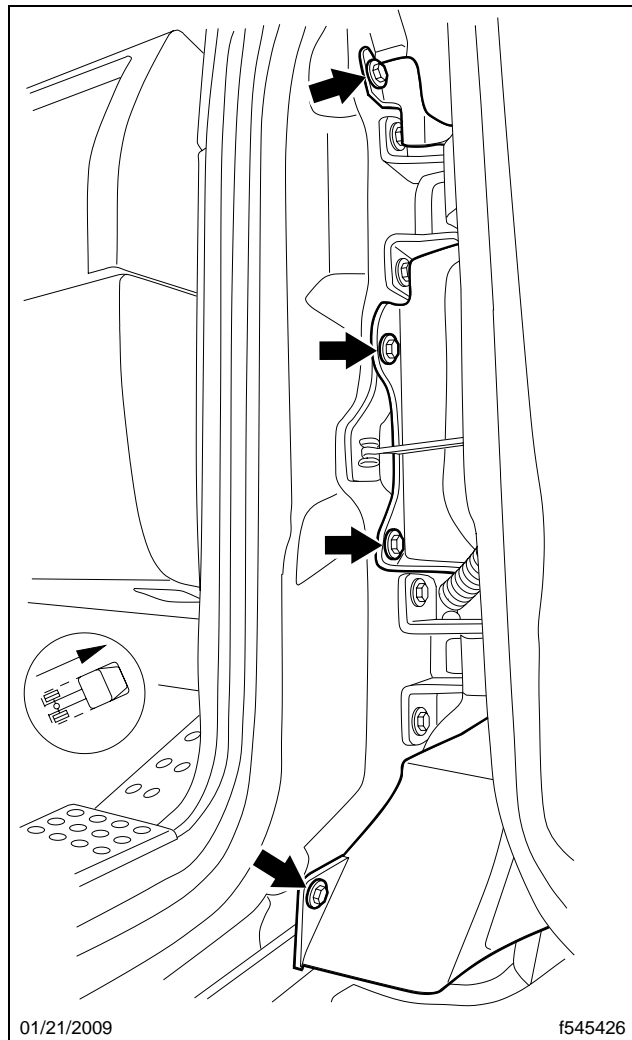

**Fig. 7, Drip Shield Installed**
13. Make sure the raised area on the right-side top of the drip shield is clean and dry, then remove the paper backing from the Velcro strip on the secondary, angle drip shield and attach it to the raised area on the drip shield on the right side of the SAM Cab. See **Fig. 7**.